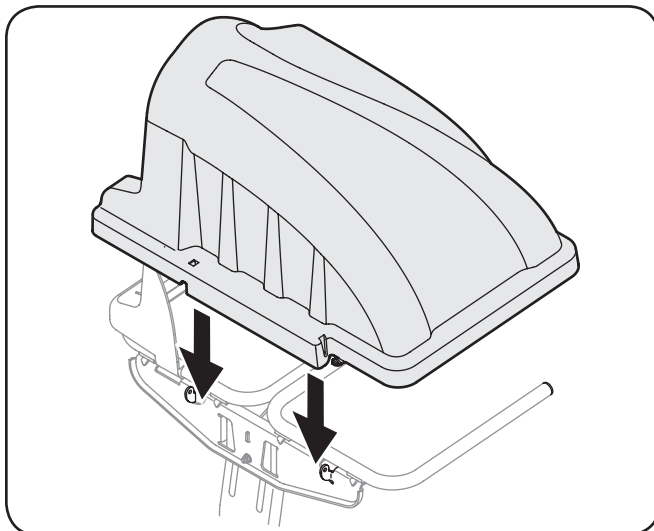

Figure 4-9
4. Install the bagger cover onto the bag support assembly, as shown in Figure 4-9. The plastic cover goes inside of the two mounting tabs.